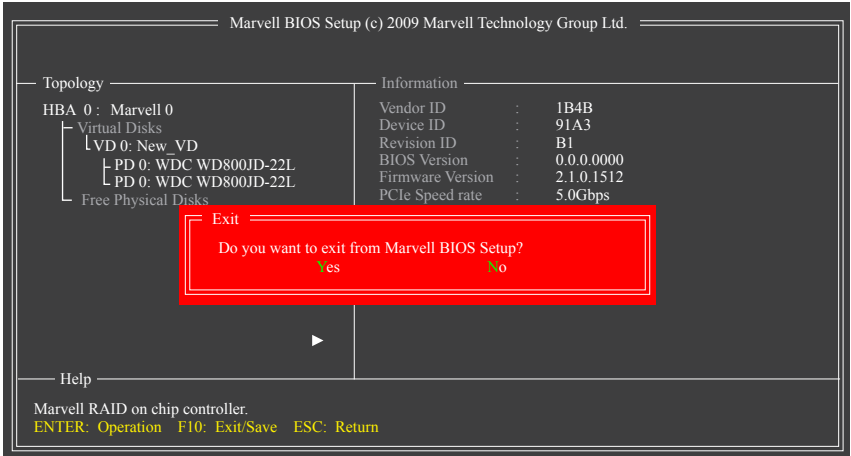

Figure 7
**7. Save the Settings and Exit.** After you complete the RAID configuration and before you exit the configuration screen, be sure to press <F10> in the main screen. Press <Y> to confirm or <N> to cancel (Figure 7).